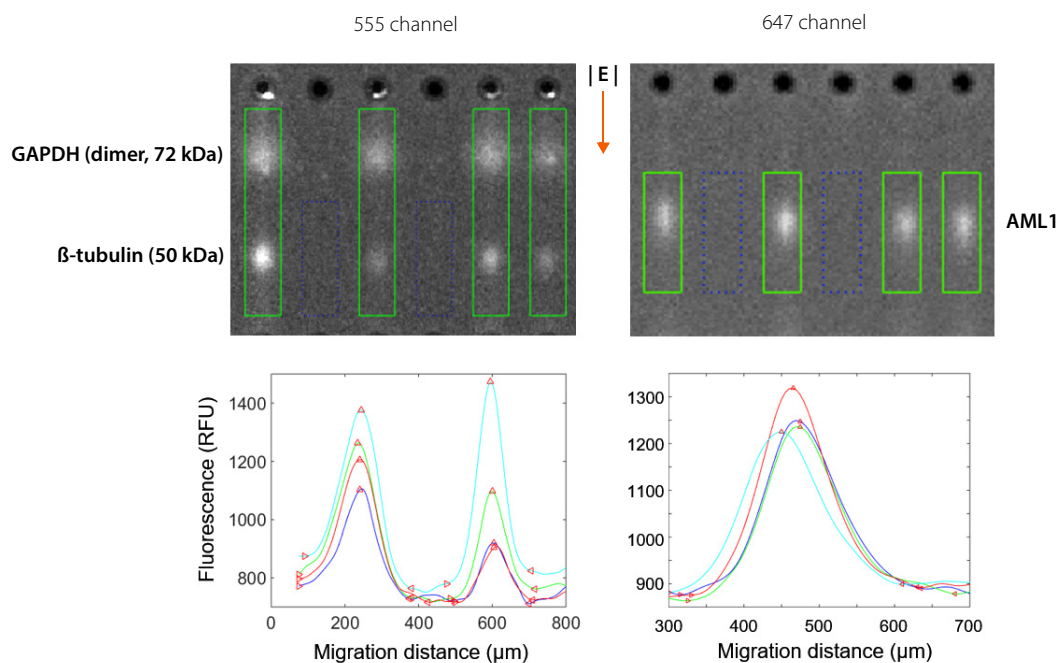

Figure 6-5: β -tubulin and GAPDH used as a proteins for a MW sizing ladder.
1. When you design your assay, make sure it contains at least two proteins that can be used for a sizing ladder. For example, β -tubulin and GAPDH shown in Figure 6-5.